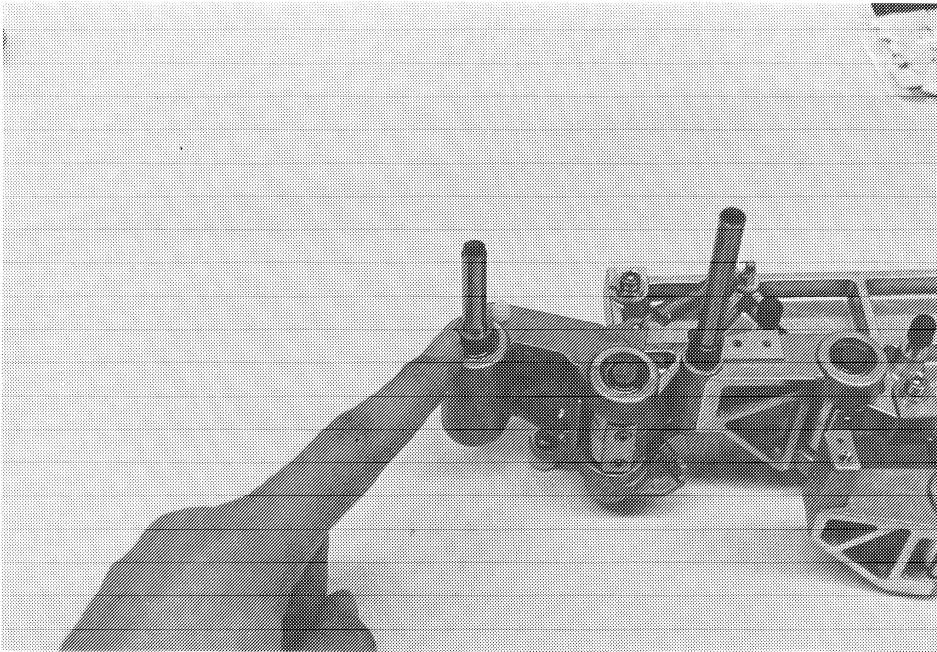
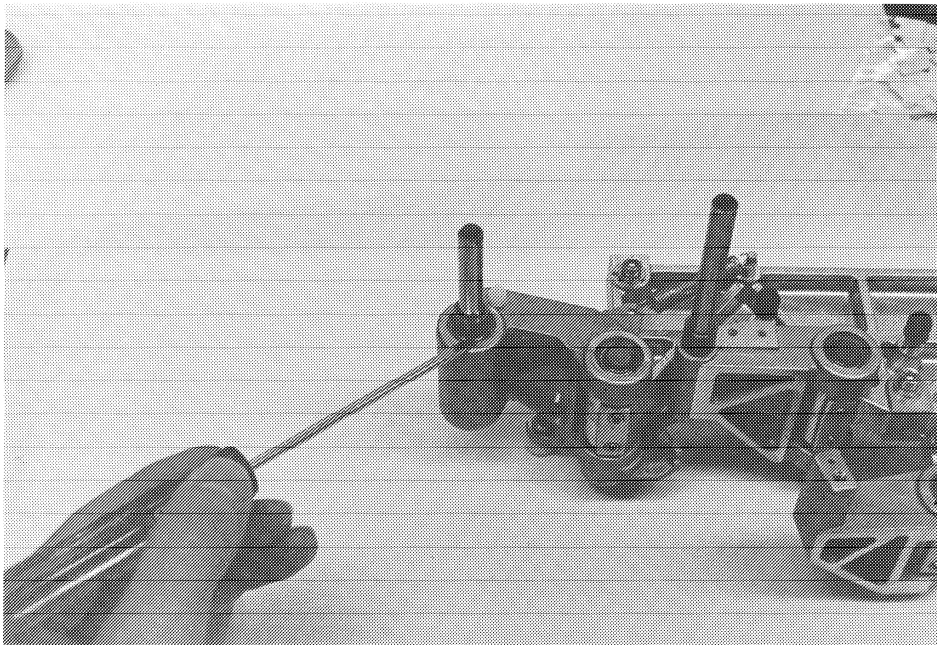

Fig. 15
Fig. 16
- Check roller height as per chapter 6.1 Step 3. In most cases the rollers will be positioned too low which is actually desirable. By fitting or removing spacer discs, the correct roller height must now be determined. Install spacer discs firstly directly underneath the rollers as Fig. 15 shows (experimental stage), once the correct height is determined install the spacer discs in the position Fig. 16 shows i.e between shaft and top ballbearing.